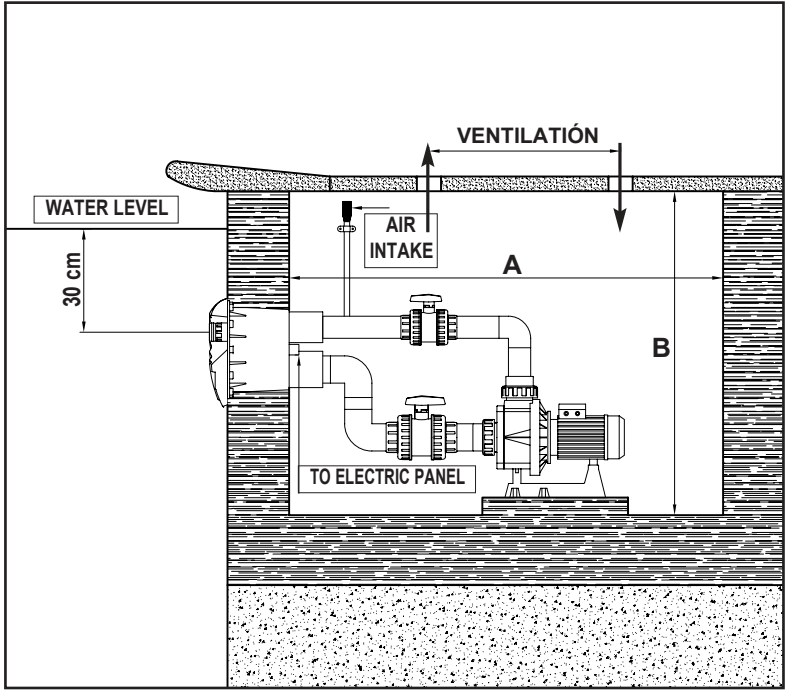

Fig. 8
10.1 Before installing the HIDROJET, equipment it is necessary to take into account the dimensions of the housing in which it will be located. You should check to ensure that you will not have space problems when installing the pump. To do so, check the minimum clearances needed for the installation, as shown in the table and in Figure 8.